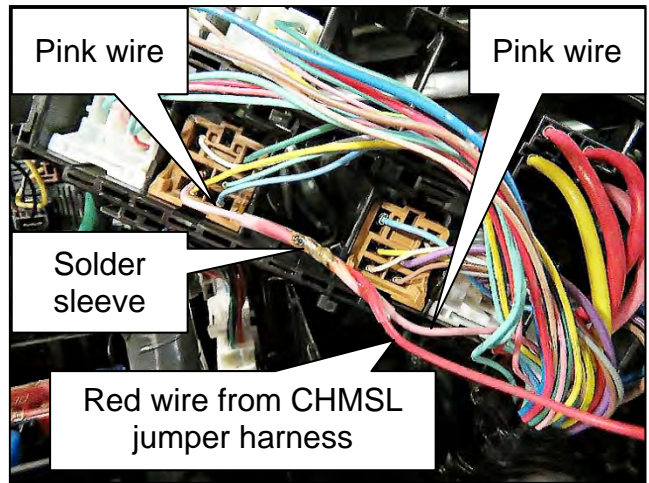

Figure 18
14. Insert the other end of the pink wire, from the reverse lamp relay connector, into the solder sleeve, and then using a flameless heat gun, special tool J-46538, heat the solder sleeve until the solder has been fully melted into the wires, as shown in Figure 18.